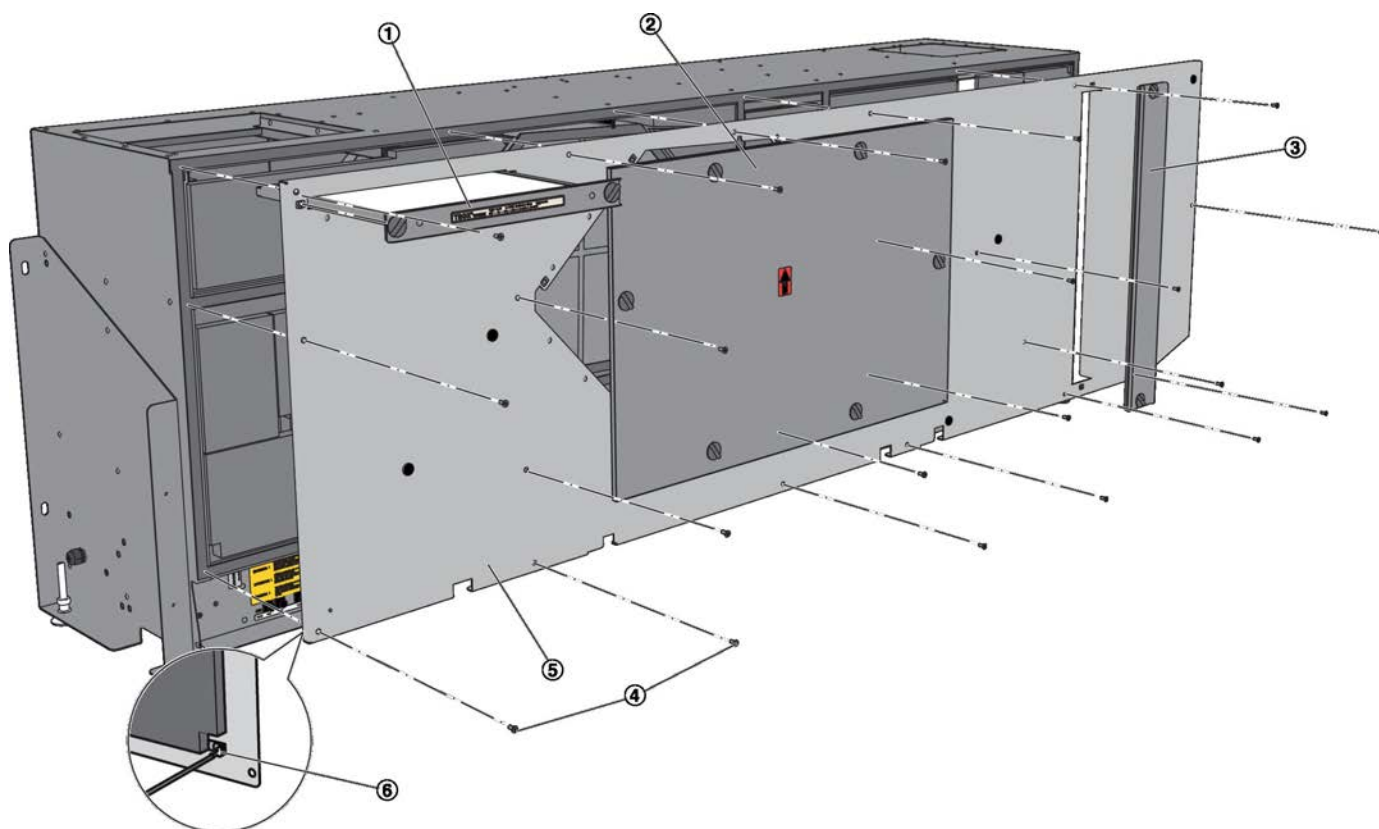

Fig. 25: Removing the inspection access panel
3. ▶ Remove the coarse dust filter (Fig. 25/1), and remove the cover (Fig. 25/3) from the fine dust filter chamber
4. ▶ Remove the inspection access panel for the recuperative heat exchanger (Fig. 25/2).
5. ▶ Remove the inspection access panel (Fig. 25/5) by loosening all the Phillips screws (Fig. 25/4) on the panel. Disconnect the protective conductor (Fig. 25/6) when you remove the inspection access panel.